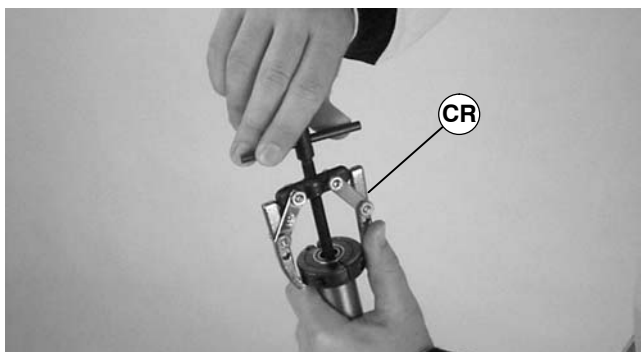

Figure 52
3. Using a puller (CR of Figure 52), remove and discard bearing(s).